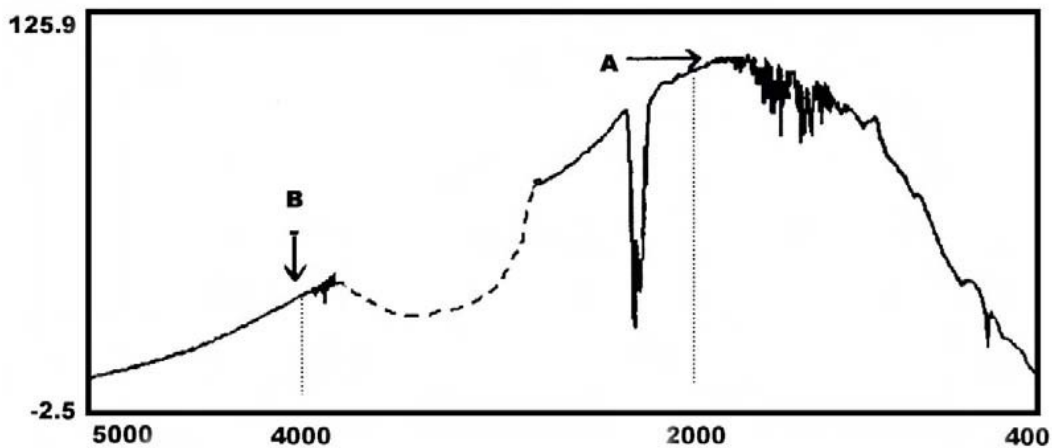

Figure 79. Problem Background Spectrum
4. The spectrum in Figure 79 has a dip in the region around 3000 to 3500 cm^{-1} . This indicates that there is a chemical coating on the gas cell. It needs to be cleaned or replaced.